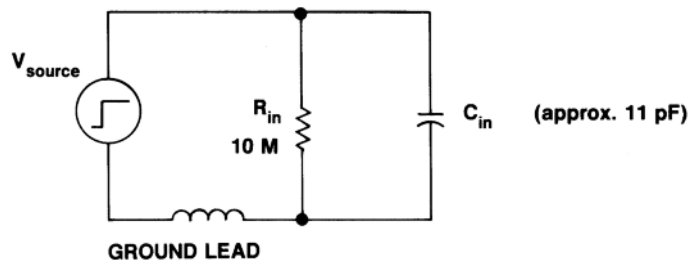

Figure 4.12. Equivalent circuit of a typical passive probe connected to a signal source.
However, it's wise to be aware of the possible problems that can arise from improper grounding. To set the stage for this, notice that there's an inductance (L) associated with the ground lead in the equivalent circuit shown in Figure 4.12. This ground-lead inductance increases with increasing lead length.